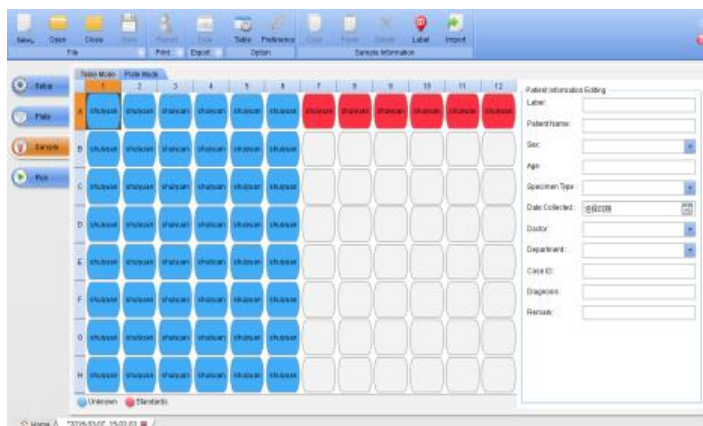

Fig 4- 24
- 1 Click **Sample** tab to go to the screen for sample editing (Fig 4- 24). This screen displays all “Unknown” samples and you can input detailed information for each sample. Click **Import** menu to import patient information from external CSV file.